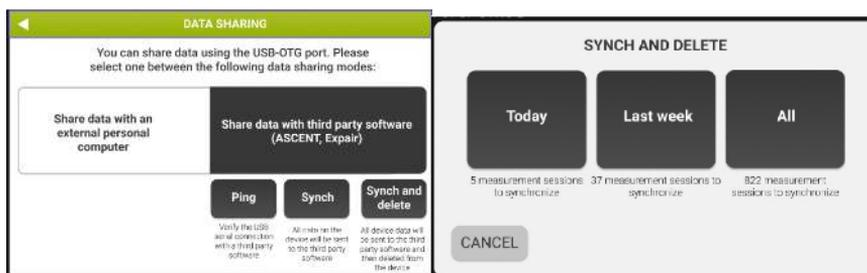

Figure 21 - Synchronization selection
6. Select *Sync and delete* to synchronize and delete data from the internal database. The Synchronization can be performed on measurements of the current day, last week or all data. Once data synchronization is ended the data on the device will be deleted (Figure 21).